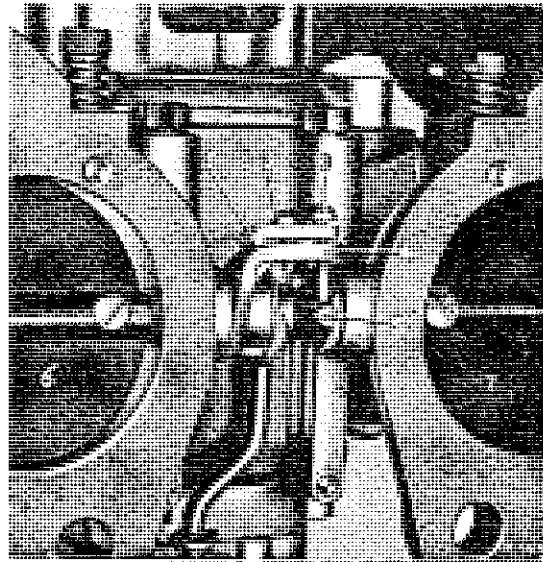

Fig. 01-3/21
1. Detach the push rod (17) between the angle lever and the control shaft and detach the two push rods (7) and (8) between the control shaft and the throttle valve levers (see Fig. 01-3/20).
2. Back out the idle adjustment screw (9) on the two carburetors until the throttle valve of Stage 1 is closed. In this position the throttle valve of Stage 2 must have a certain amount of play; if this is not the case, the adjustment screw (3) on the relay lever of the throttle valve shaft of Stage 1 must be backed out (see Fig. 01-3/21).